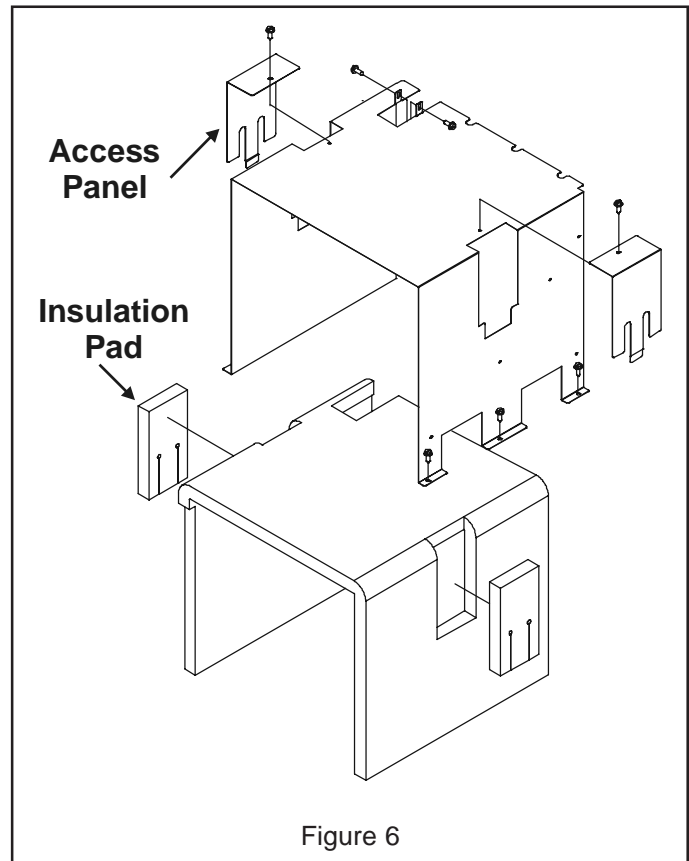

Figure 6
4. Remove screw securing access plate (see figure 6) to insulation retainer.